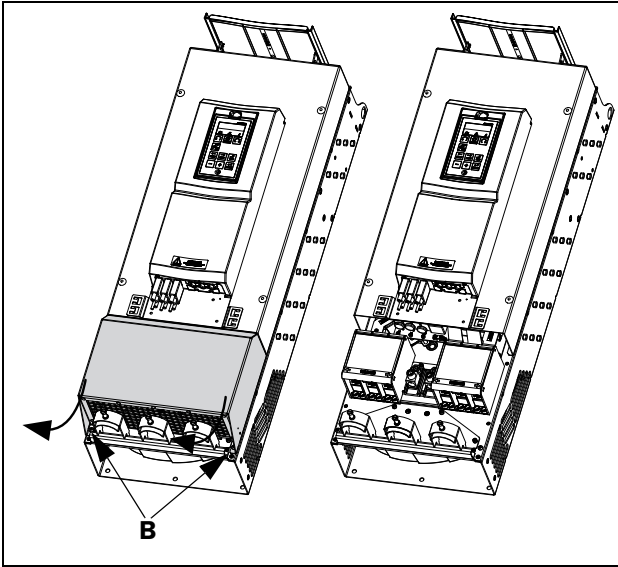

Fig. 36 Loosen the two screws and remove the lower cover (principle drawing)
- Loosen the two screws B (see Fig. 36).